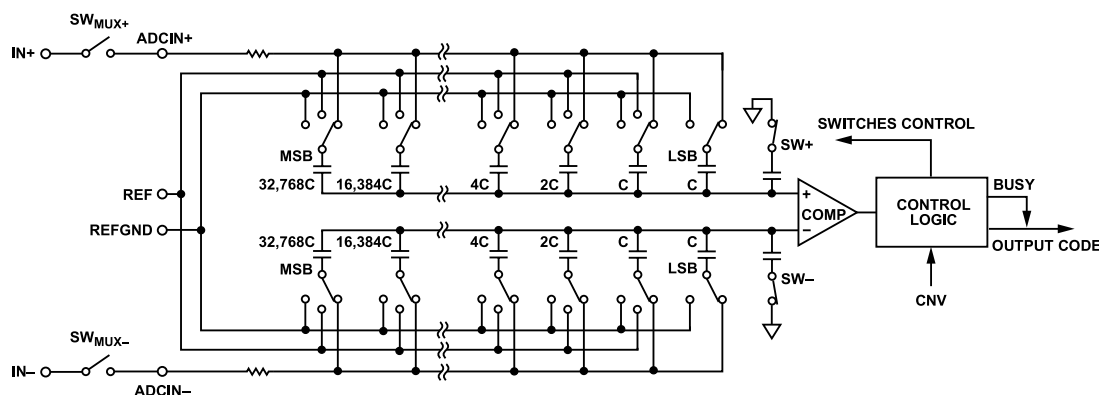
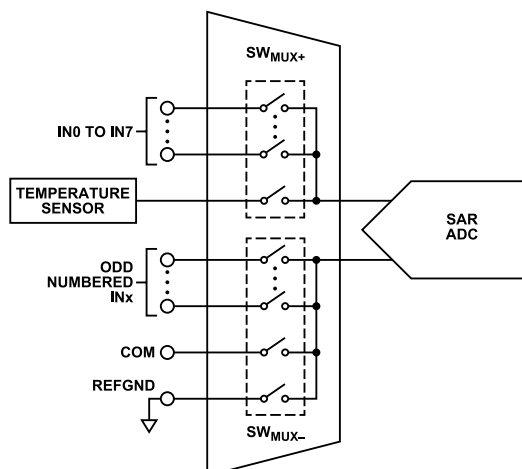
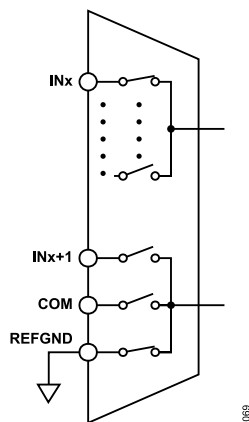

Figure 63. ADC Simplified Schematic
Figure 67. Multiplexer Simplified Schematic
Figure 68. INx Paired with REFGND
The AD4697/AD4698 contain an SAR-based ADC core that utilizes a charge redistribution digital-to-analog converter (DAC) to quantize the applied input voltage to an output code. Figure 63 shows a simplified schematic of the AD4697/AD4698 SAR ADC core.
The analog inputs and the temperature sensor are connected to the capacitor array inputs (ADCIN+ and ADCIN-) via the internal low crosstalk multiplexer, represented by SW_{MUX+} and SW_{MUX-} in Figure 63. The multiplexer switches are controlled by the internal channel sequencing logic and are updated once per conversion (see the Multiplexer section and the Channel Sequencing Modes section).
A low crosstalk analog multiplexer routes the signals from the analog input pins to the ADC core inputs. The impedance of the analog inputs is modeled as the parallel combination of the pin capacitance (C_{PIN}) and the network formed by the series connection of R_{IN} and C_{DAC} . R_{IN} represents the ADC input series resistance and the multiplexer switch resistance and is typically $240\ \Omega$. C_{DAC} represents the ADC sampling capacitive DAC shown in Figure 63 and is typically 60 pF .
The AD4697/AD4698 contain a flexible, low crosstalk analog multiplexer for selecting from the eight analog inputs and internal temperature sensor and routing them to the inputs of the 16-bit, pseudo differential SAR, ADC core. Figure 67 shows a simplified schematic of the internal multiplexer. The SW_{MUX+} and SW_{MUX-} switches shown in Figure 63 and Figure 67 represent the multiplexer switches that route the selected channel to the ADC inputs (labeled ADCIN+ and ADCIN- in Figure 63). SW_{MUX+} and SW_{MUX-} are break-before-make and are controlled by the internal channel sequencing logic (see the Channel Sequencing Modes section).
The multiplexer allows flexible analog input channel configuration. The SW_{MUX-} position is user programmable and can be assigned to any of the pins shown in Figure 67 (see the Channel Configuration Options section).
The channel configuration settings include pin pairing assignments and signal polarity modes. The pin pairing options assign the position of SW_{MUX-} for each position of SW_{MUX+} and determine which signal is routed to the negative side of the SAR ADC core (ADCIN- in Figure 63). The signal polarity modes configure the ADCIN- voltage range. Figure 68 shows the pin pairing and voltage ranges for the different channel configuration options.
- Figure 68, IN0 to IN7 paired with REFGND
When the temperature sensor is selected, the multiplexer SW_{MUX+} switch (see Figure 67) selects the temperature sensor output and its SW_{MUX-} switch selects REFGND, and the SAR ADC core samples V_{TEMP} to generate a corresponding output code. The analog-to-digital conversion of the temperature sensor output utilizes the same transfer function as an analog input configured in unipolar mode with $\text{OSR} = 1$ (see the Transfer Function section).